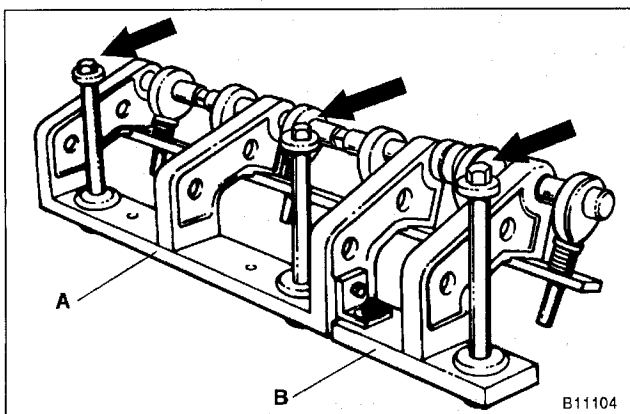

Fig. 6. Special BMW tool no. 11 3 260 (A) with adapter 11 3 270 (B). Tool mounting bolts (arrows) thread into spark plug holes.
4. Remove spark plugs and install BMW special tool 11 3 260/11 3 270 to cylinder head. Tighten tool retaining bolts in spark plug holes. Do not over-tighten bolts. See Fig. 6.